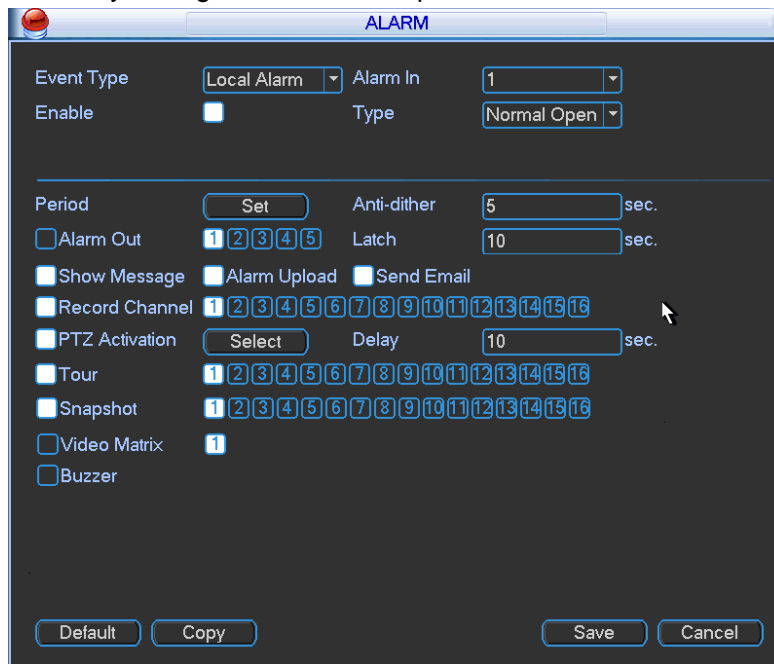
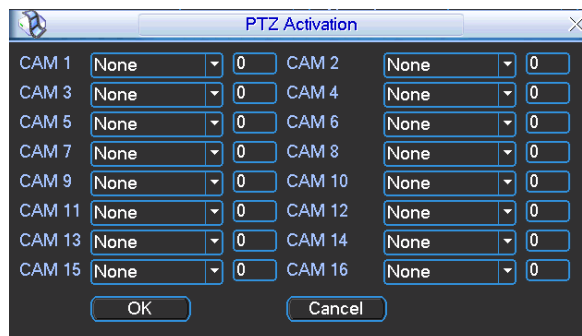

Figure 4-34
Figure 4-35
In the main menu, from Setting to Alarm, you can see alarm setup interface. See Figure 4-34.
Alarm interface is shown as below. See Figure 4-34.
- ✧ In Figure 4-34, click “select” button, you can see an interface is shown as in Figure 4-35. Here you can set the activation operation such as preset tour, pattern and enable.